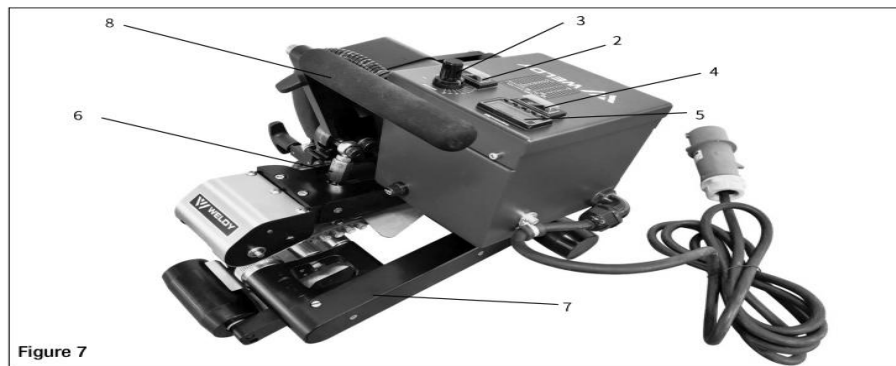

Figure 7
- With a Phillips screw driver remove lower frame chain cover (#7, Figure 7) to expose the lockdown bolt for the front lower contour roller.